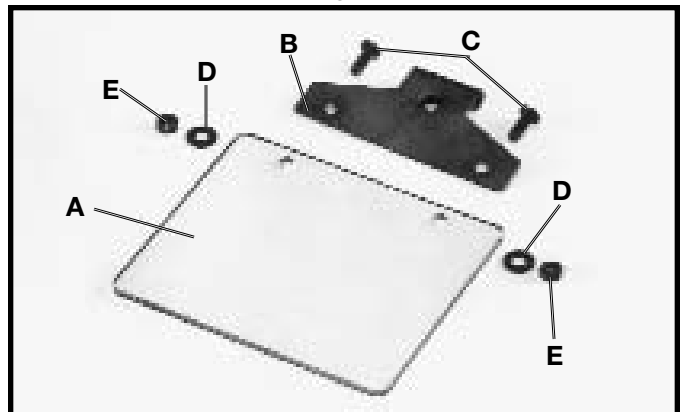

Fig. 5
1. Place shield (A) Fig. 5, under the lip of frame (B). Line up the two holes in the shield with the two holes in the frame and fasten together using #10-24x1/2" screws (C), 15/32" washers (D) and #10-24 nuts (E). Assemble the other shield in the same manner.